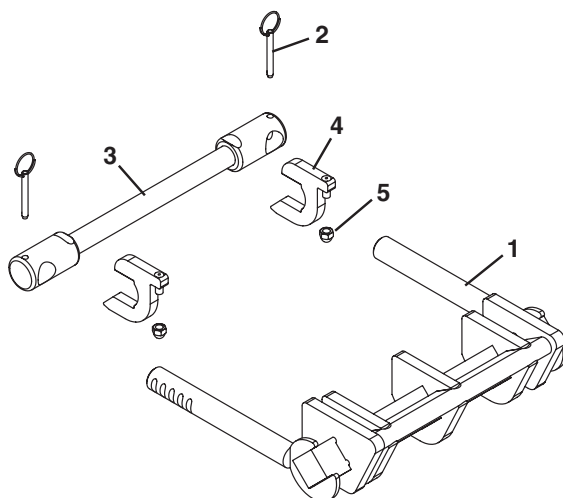

Figure 17
Typical Nose Bar Tip Up Tail Components (**Figure 17**)
*Adjust the acorn nuts (**Figure 17, item 5**) on the key stops (**Figure 17, item 4**) to raise or lower the tip up tail assembly.*